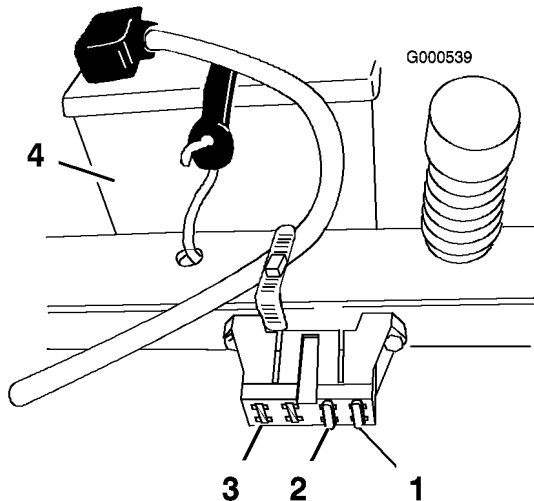

Figure 34
1. Raise the seat to gain access to the fuse holder (Figure 34).
2. To replace a fuse, pull out on the fuse to remove it (Figure 34).